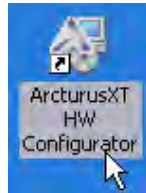

Figure 3. Hardware Configurator
2. Open the Arcturus^{XT} Hardware (HW) Configurator by double clicking on the shortcut found on the desktop (Figure 3).